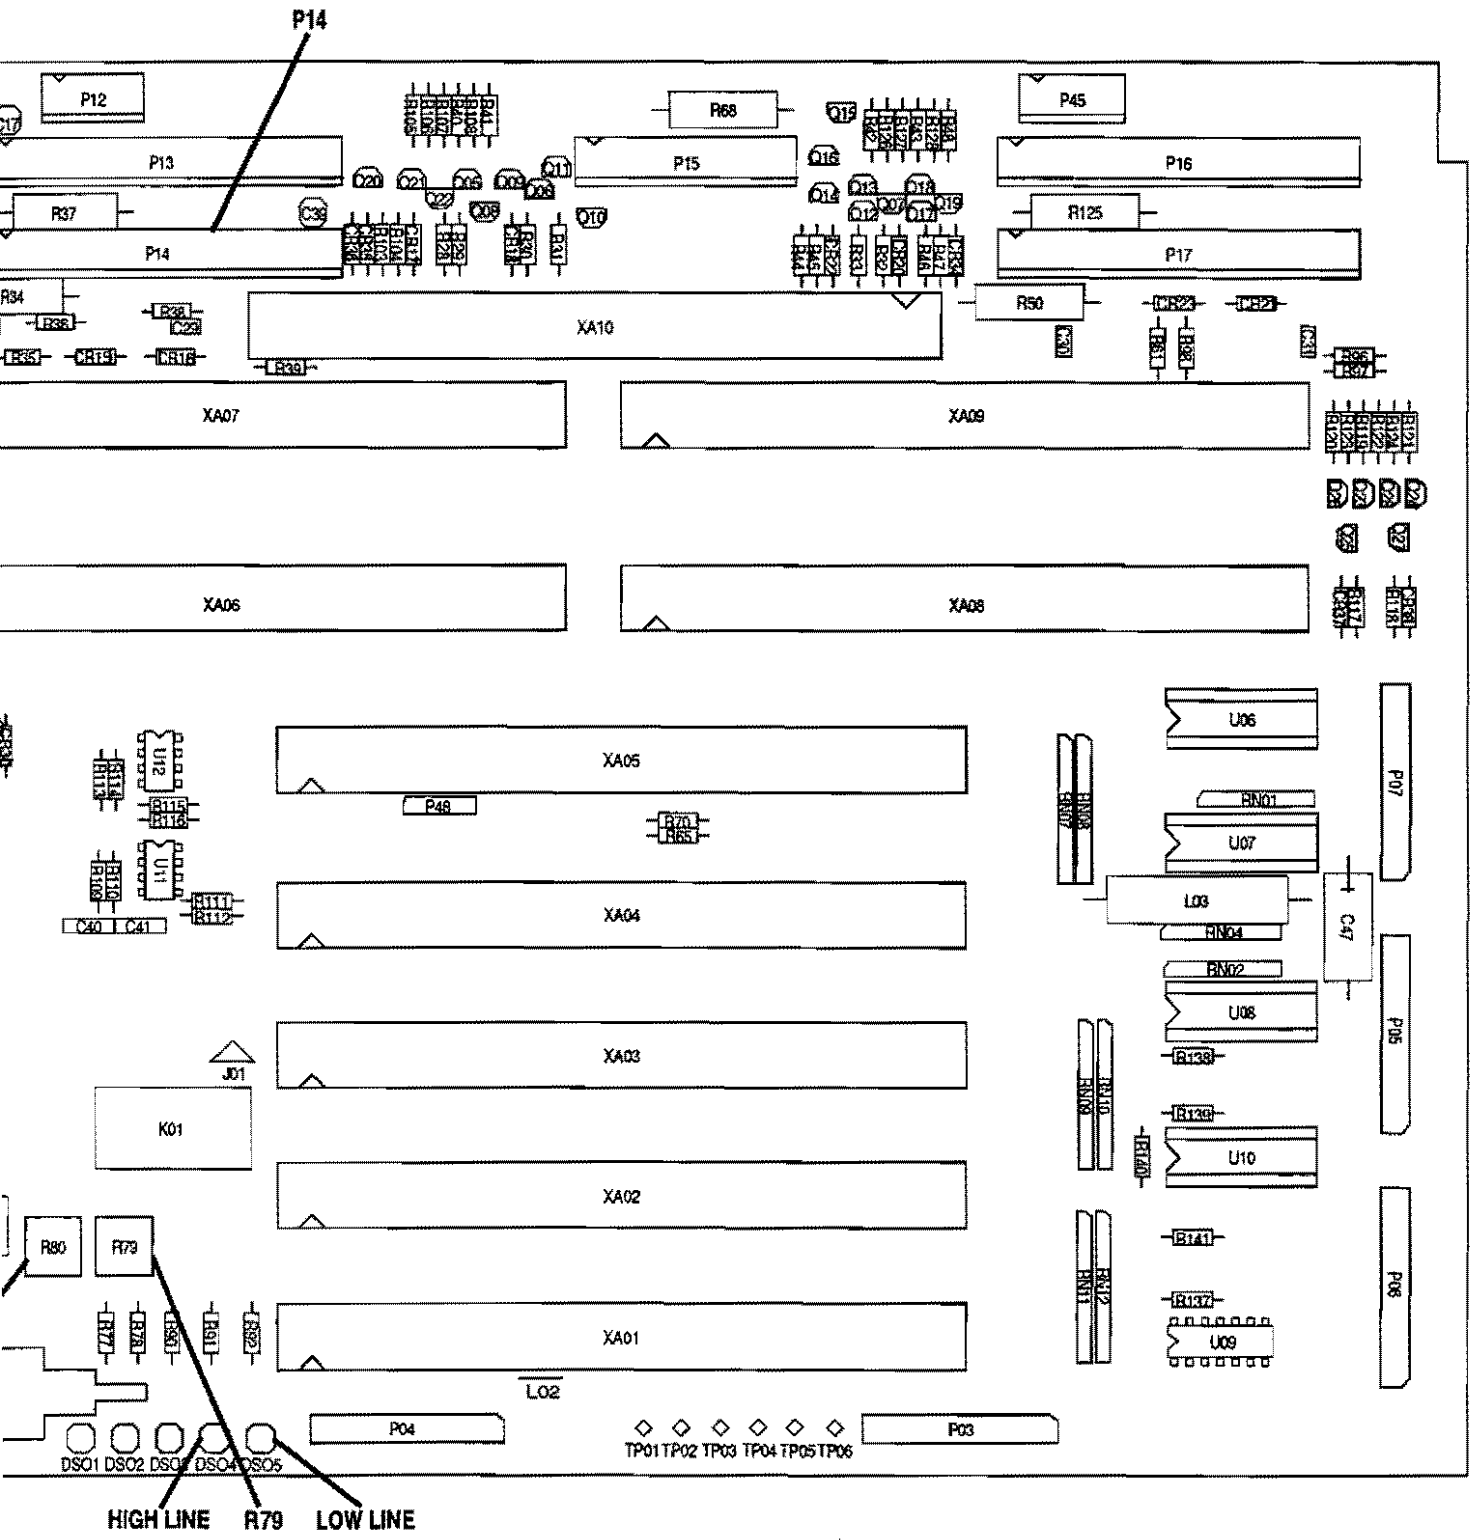

Figure 10-23. A14 Motherboard PCB, Test Point Connector, Indicator, and Adjustment Locations
Step 1. Adjust A14R89 (Figure 10-23) clockwise to its limit.
- Step 5.** Adjust A14R79 (LOW) (Figure 10-23) to its clockwise limit; then readjust counterclockwise until the A14 LOW LINE indicator lights.
- Step 3.** Adjust A14R80 (HIGH) (Figure 10-23) to its clockwise limit; then readjust counterclockwise until the HIGH LINE indicator lights.